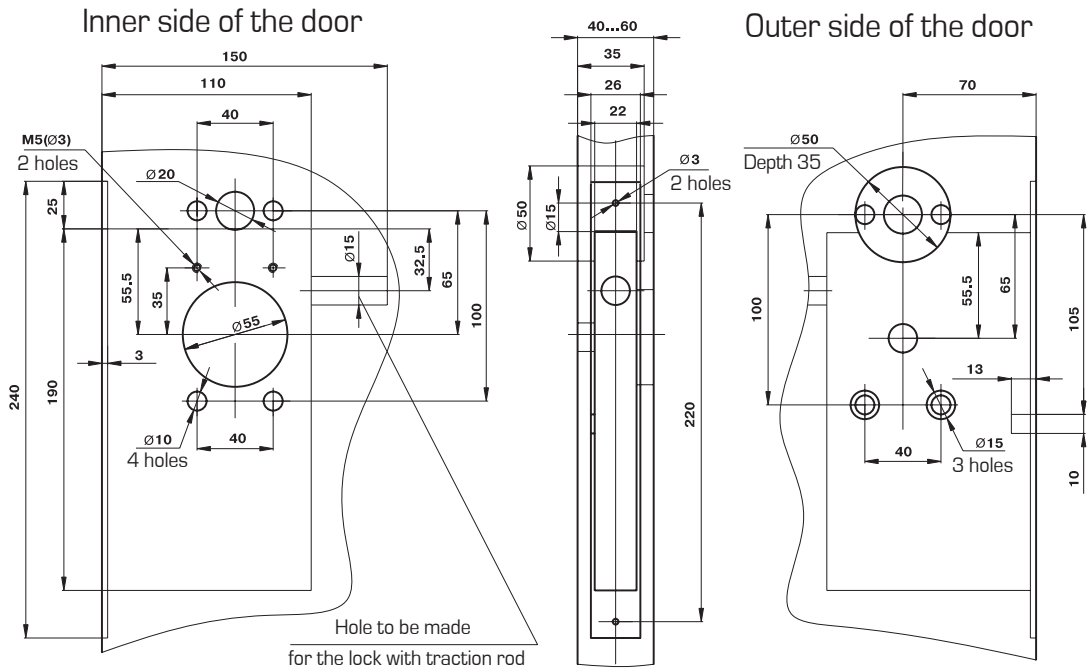

Figure 11 – Marking for installation of the lock on the left-hand door
3. Mark the door for installing the lock according to fig. 11.